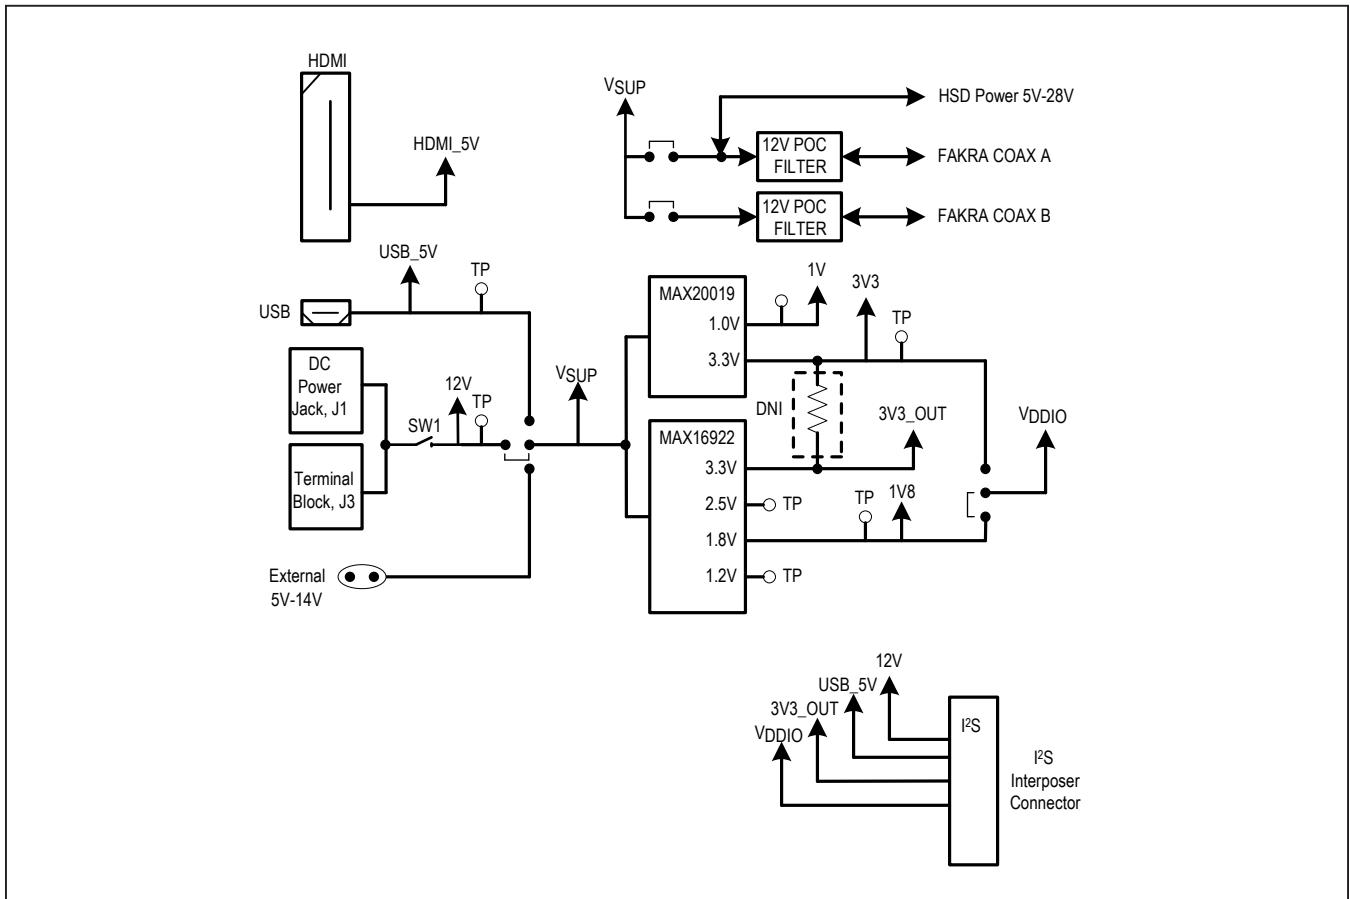

Figure 4. Serializer Evaluation Board Power Connection Diagram
- 5) Connect the +12V wall DC power supply into J1. See Figure 4 for power supply details.
The power configuration of the EV kit hardware may be re-configured to allow external supply connections. Figure 4 shows the power connection options.